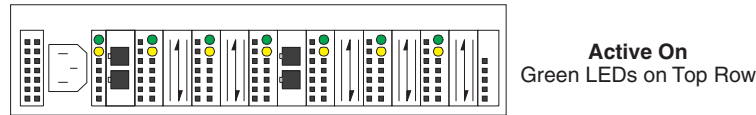

Figure 6. Type 3523 fibre-channel hub active on LEDs
3. Check the Device Active (green) LEDs on the fibre-channel hub ports. See Figure 6 on page 7.